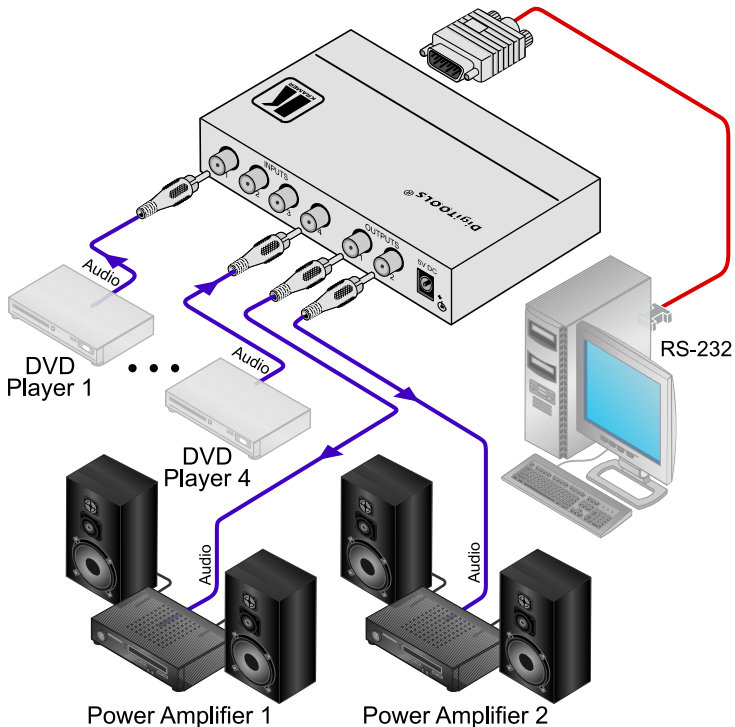

Figure 2: Connecting the 6502 4x1 S/PDIF Switcher / DA
To connect the **6502 4x1 S/PDIF Switcher / DA**, as illustrated in the example in Figure 2, do the following¹:
4. Connect the 5V DC power adapter to the power socket and connect the adapter to the mains electricity (not shown in Figure 2).